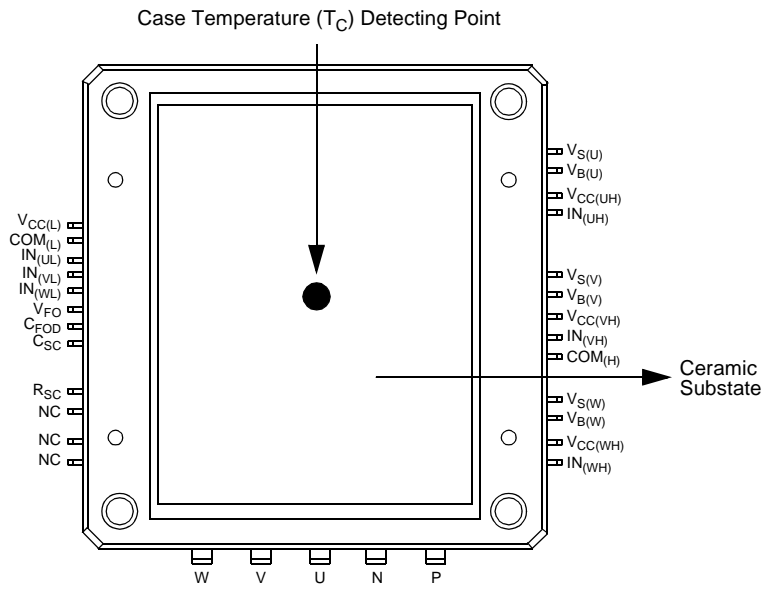

Fig. 4. T_c Measurement Point
| Each IGBT Collector Current | $\pm I_C$ | $T_C = 25^\circ\text{C}$ (Note Fig. 4) | 10 | A |
| Each IGBT Collector Current (Peak) | $\pm I_{CP}$ | $T_C = 25^\circ\text{C}$ (Note Fig. 4) | 20 | A |
| Module Case Operation Temperature | T_C | Note Fig. 4 | -20 ~ 100 | $^\circ\text{C}$ |
2. For the measurement point of case temperature (T_c), please refer to Fig. 4.